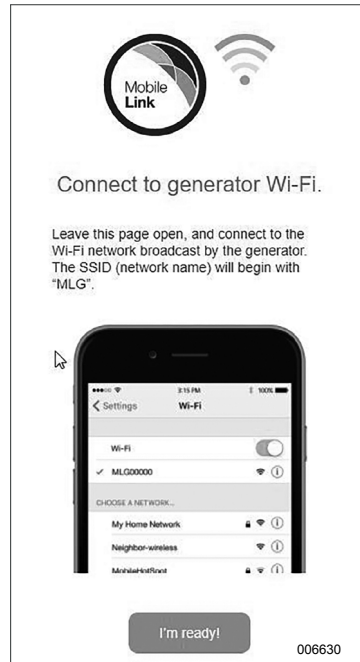

Figure 3-10. Connection Screen
4. See Figure 3-10. Connect to the generator Wi-Fi network (MLGXXXX) using a Wi-Fi enabled mobile device. **Then, return to the browser** and click "I'm ready."